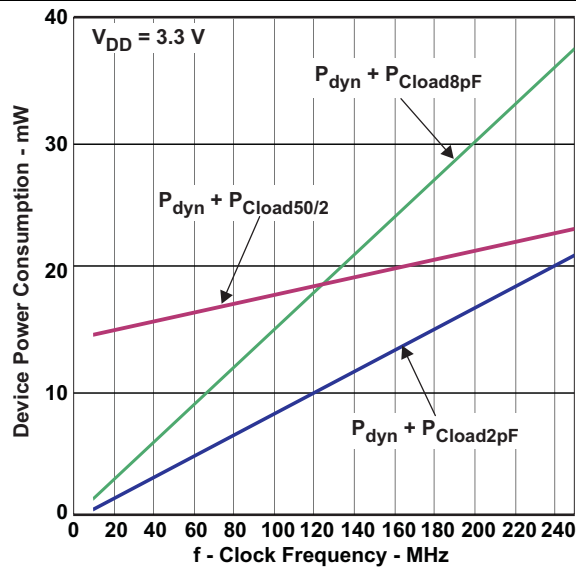
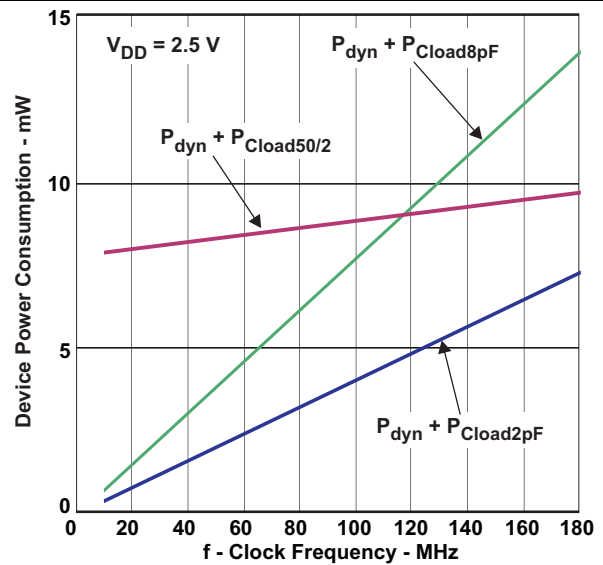

Figure 1. Device Power Consumption vs Clock Frequency (Load 50 Ω into $V_{DD}/2$; 2 pF, 8 pF; Per Output)
Figure 2. Device Power Consumption vs Clock Frequency (Load 50 Ω into $V_{DD}/2$; 2 pF, 8 pF; Per Output)
- (2) For dynamic I_{DD} over frequency see Figure 1 and Figure 2.
- (3) This is the formula for the power dissipation calculation (see Figure 1 and the Power Consideration section).
The output load can be capacitive only or capacitive and resistive. The following formula and the power graphs in Figure 1 and Figure 2 can be used to obtain the power consumption of the device:
$$P_{dyn} + P_{Cload} = \text{see Figure 1 and Figure 2}$$